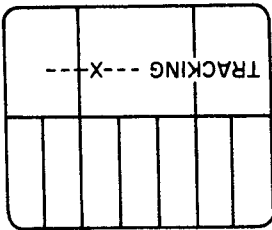
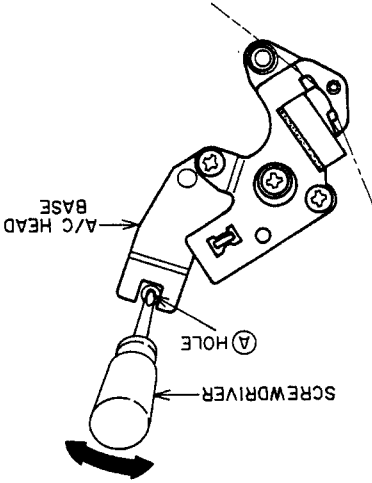

Fig. 4-15
Fig. 4-17
- 3) Press the "<" or ">" cursor button on the remote control until the "X" mark can be seen in the center position of the tracking range on the TV screen as shown in Fig. 4-15.
- 4) Loosen the (C) screw slightly so that the A/C HEAD PLATE can be moved with reasonable tightness.
- 5) Insert a sharp, flat head (—) screwdriver into the A/C HEAD BASE and (A) hole as shown in Fig. 4-17.
- 6) Move the A/C HEAD BASE by moving a screwdriver in the direction of the arrow as shown in Fig. 4-17 to obtain the maximum RF output, then tighten the (C) screw.